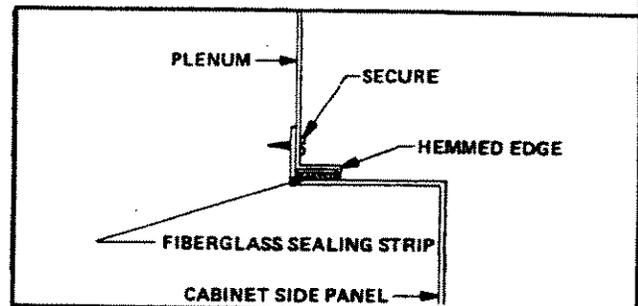

FIGURE 5
- 1 - Bottom edge of plenum should be flanged with a hemmed edge (See figure 5).